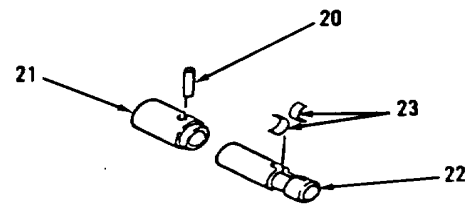

Figure 8-8.
6. Remove pin (20), sleeve (21), spool (22) and six springs (23, Figure 8-8).